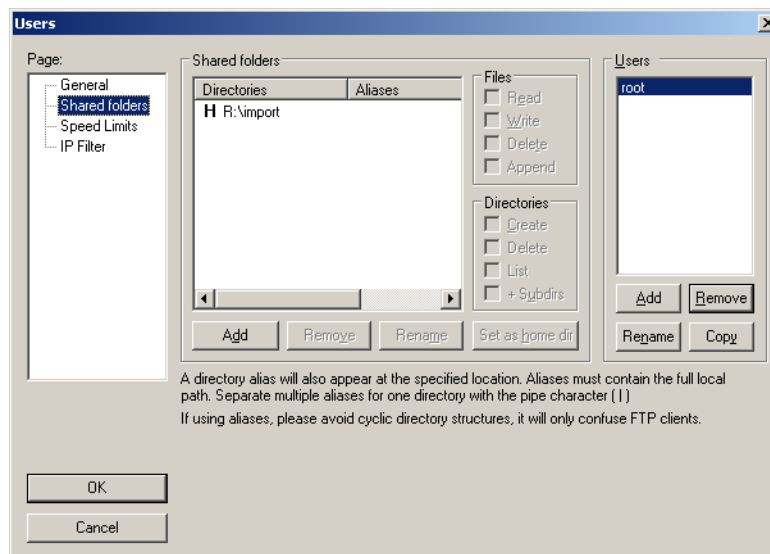

Figure 3-13: Shared Folders
- Highlight the default folder, R:\Import in Figure 3-13, and click the Remove button. Click the Add button and navigate to the folder you wish to use. Check all 8 checkboxes in the Shared Folders group box and click the Set as home dir button.